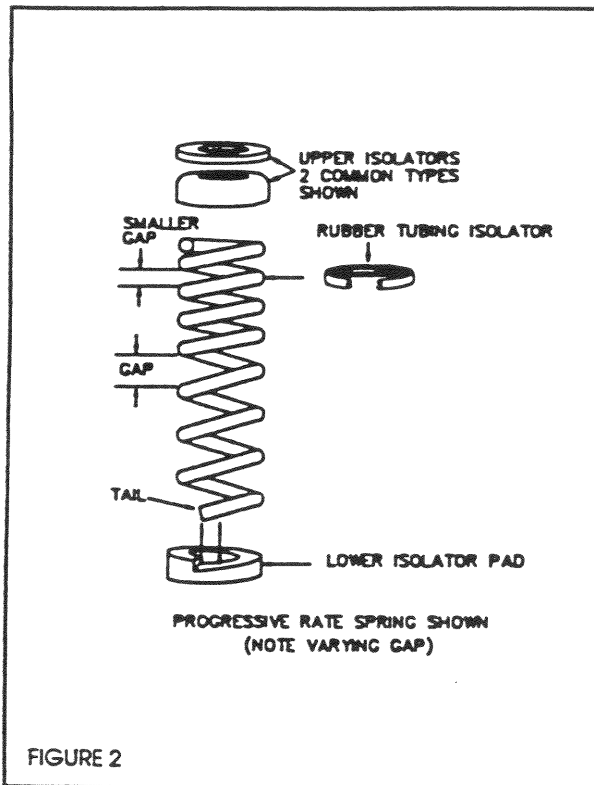

FIGURE 2
3. Always install all Original Equipment spring isolators (rubber pads, tube-type insulators, etc.) if so equipped. Please note that all vehicles do not always have spring in isolators. Vehicles equipped with progressive rate springs (coils closer together at one or both ends) must install any O.E. tubing-type isolators on the end of the spring with the closest coils (smaller gap). The rule is "If it came off the vehicle, put it back on." (See figure 2)
4. Make sure the spring is properly seated in both the top and bottom spring perches. When installing springs into "helical" perches, the "tail" of the springs should be seated in the deepest part of the perch (or the ride height will be incorrect-too high). Always verify this after installing any spring. (See figure 2)